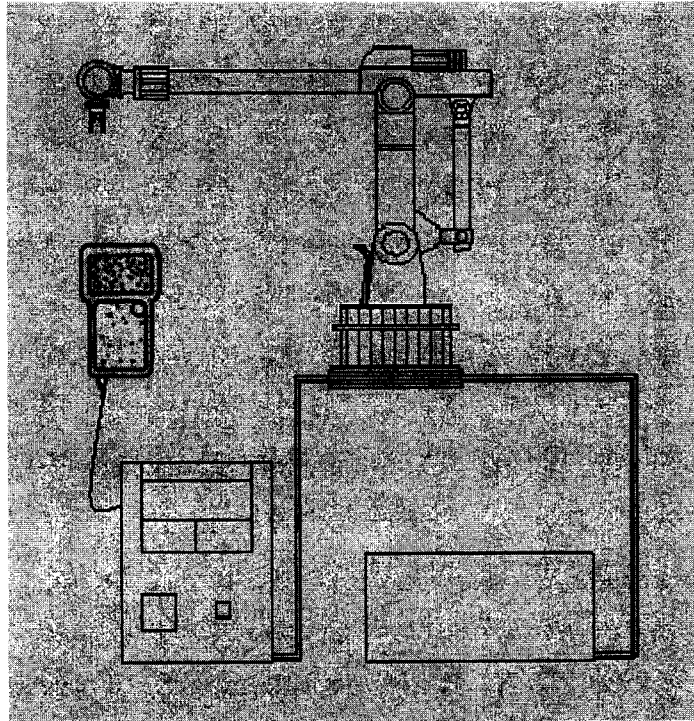

FIGURE Q1(c)
- (b) Nowadays robots are preferred in industrialization. Discuss three (3) reasons of using robots instead of human to perform a task.
- (c) Figure Q1(c) shows an industrial robot.